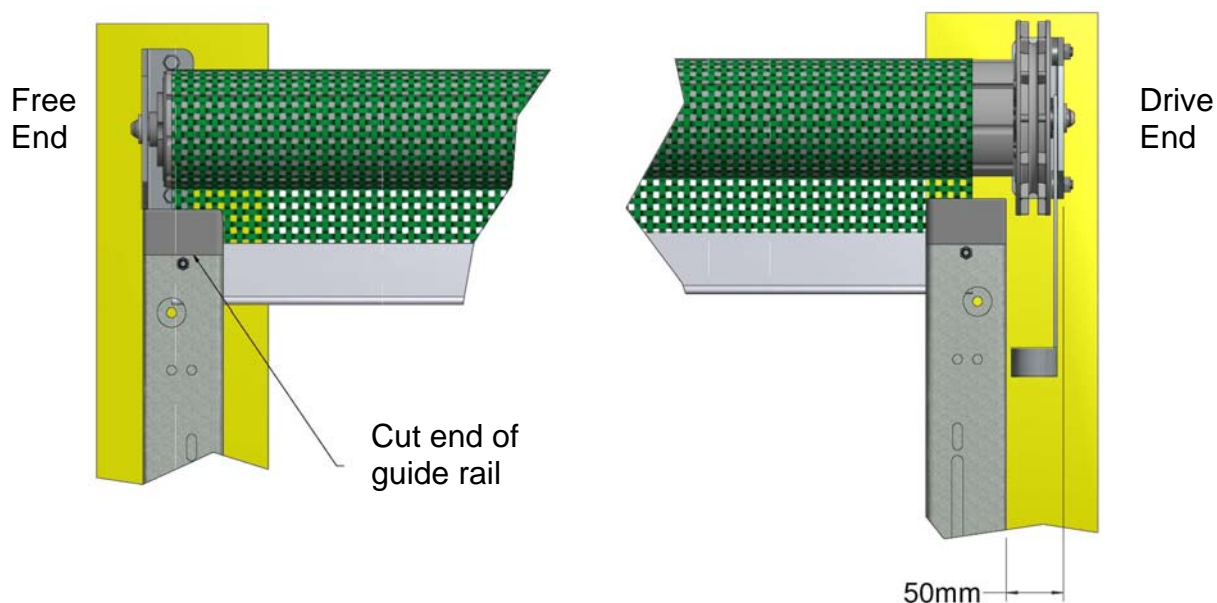

Figure 8a, Guide Rail Positioning
7. The Guide Rails are to be positioned so that the Free End Guide Rail is flush with the spring bracket (F1) and the Drive End Guide Rail is offset by 50mm from the drive bracket (D1), as shown in Figure 8a. The cut ends of guide rails are to be positioned next to wall brackets.